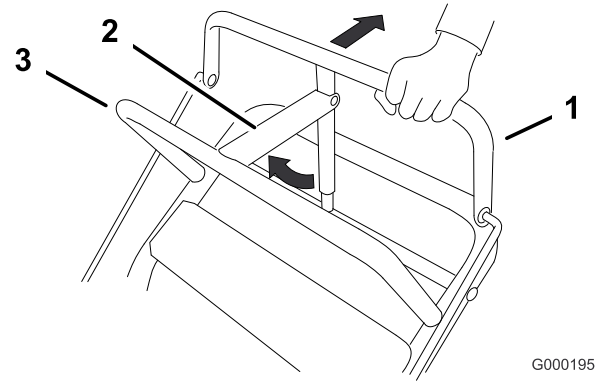

Figure 7
1. Pull the upper control bar (Figure 7) rearward and hold it in this position.
2. Lift the parking brake lock (Figure 7) up and gradually release the upper control bar. The brake lock should stay in the set (locked) position.